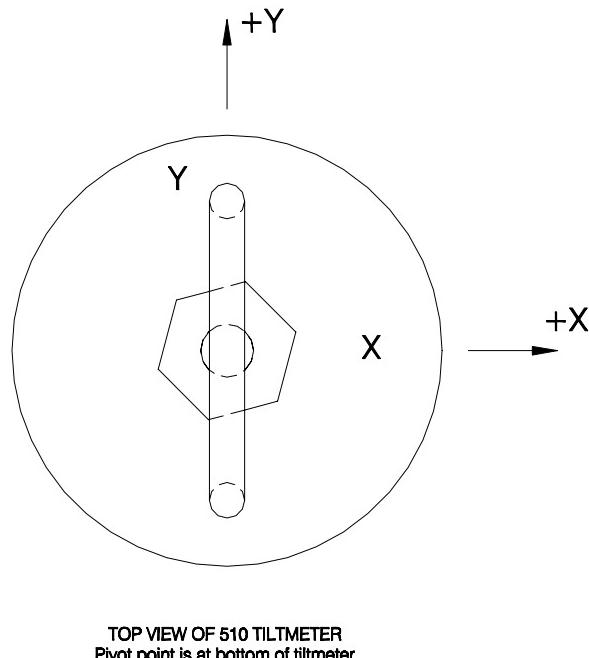

Figure 10. Tilt sign convention
5. Locate the X and Y marks at the top of the tiltmeter and familiarize yourself with the sign convention in Figure 10. Rotate the tiltmeter in the positive and negative X and Y directions while keeping the bottom stationary. View the output of both channels in the displays of the Motor Control Unit. Verify that the sign (polarity) of the outputs is as shown in Figure 10 and that the outputs swing to full scale (approx. \pm 7 volts in gain “1”, \pm 8 volts in gains “2” and “3”) in the positive and negative directions for each channel.
2. Tie a brightly colored piece of cloth or tape to the +Y side of the tiltmeter handle (Figure 10). Lower the tiltmeter to the bottom of the hole using a rope or the installation hook from the Model 729 tool kit.